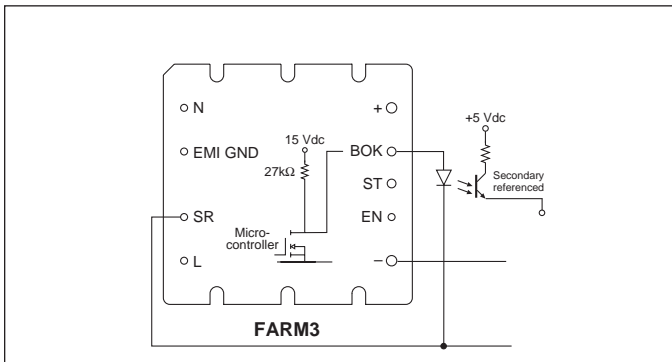

Figure 12—Bus OK (BOK) isolated power status indicator
**Bus-OK (BOK) Pin.** (see Figure 12) The Bus-OK pin is intended to provide early-warning power fail information and is also referenced to the SR pin.